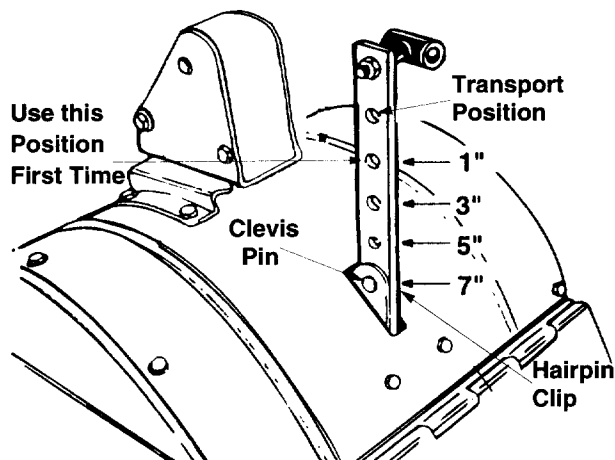
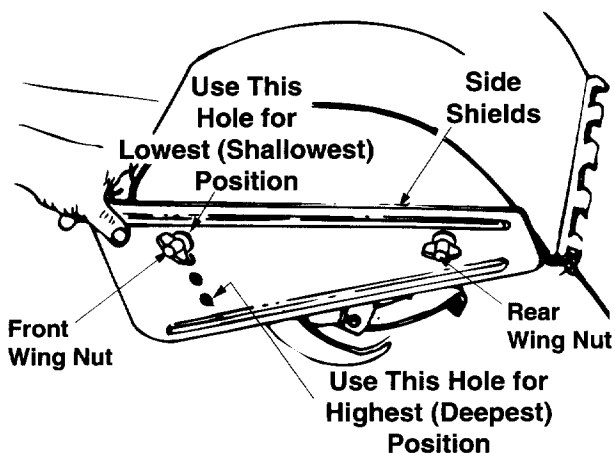

Figure 9
Figure 10
See Figure 9.
Tilling depth is controlled by the depth stake which can be adjusted to five different settings. See Figure 9. Adjust the side shields as shown in Figure 10, as you adjust the depth stake. Be certain spark plug wire is disconnected and grounded against the engine.
1. When using the tiller for the first time, use the second adjustment hole from the top (1" of tilling depth). See Figure 9.
5. To adjust the depth stake, remove the clevis pin and hairpin clip. See Figure 9. Move the depth stake to the desired setting.
6. To adjust the side shields, remove the front wing nut and loosen the rear wing nut. See Figure 10. Place side shield in position desired. Replace wing nuts and tighten securely.